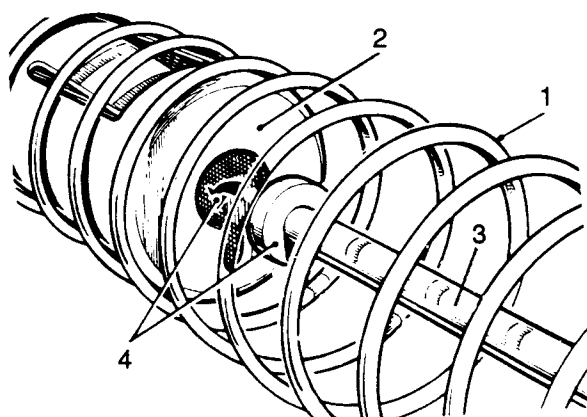

Fig H3.23
- (5) Refer to Fig H3.23. Place the coil spring (1) over the valve stem.
- (6) Insert the retainer (2) into the spring.
- (7) Compress the spring and engage the valve stem (3) in the keyhole slot (4) in the retainer.